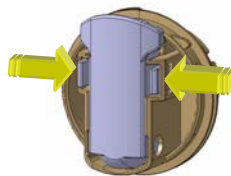

Fig. 2
- press the two tabs that secure the closing lever to the plug fig. 2.